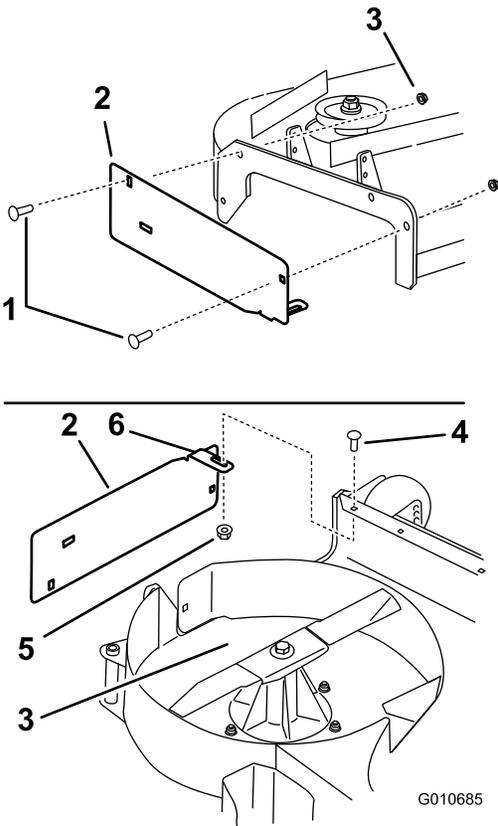

Figure 7
1. Install the discharge plate to the outside of the mounting bracket with 2 carriage bolts (3/8 x 1-1/4 inches) and 2 small flange nuts (3/8 inch) as shown in Figure 7.
2. Install the tab to the inside of the mower deck with 1 carriage bolt (5/16 x 7/8 inch) and 1 small flange nut (5/16 inch) as shown in Figure 7.